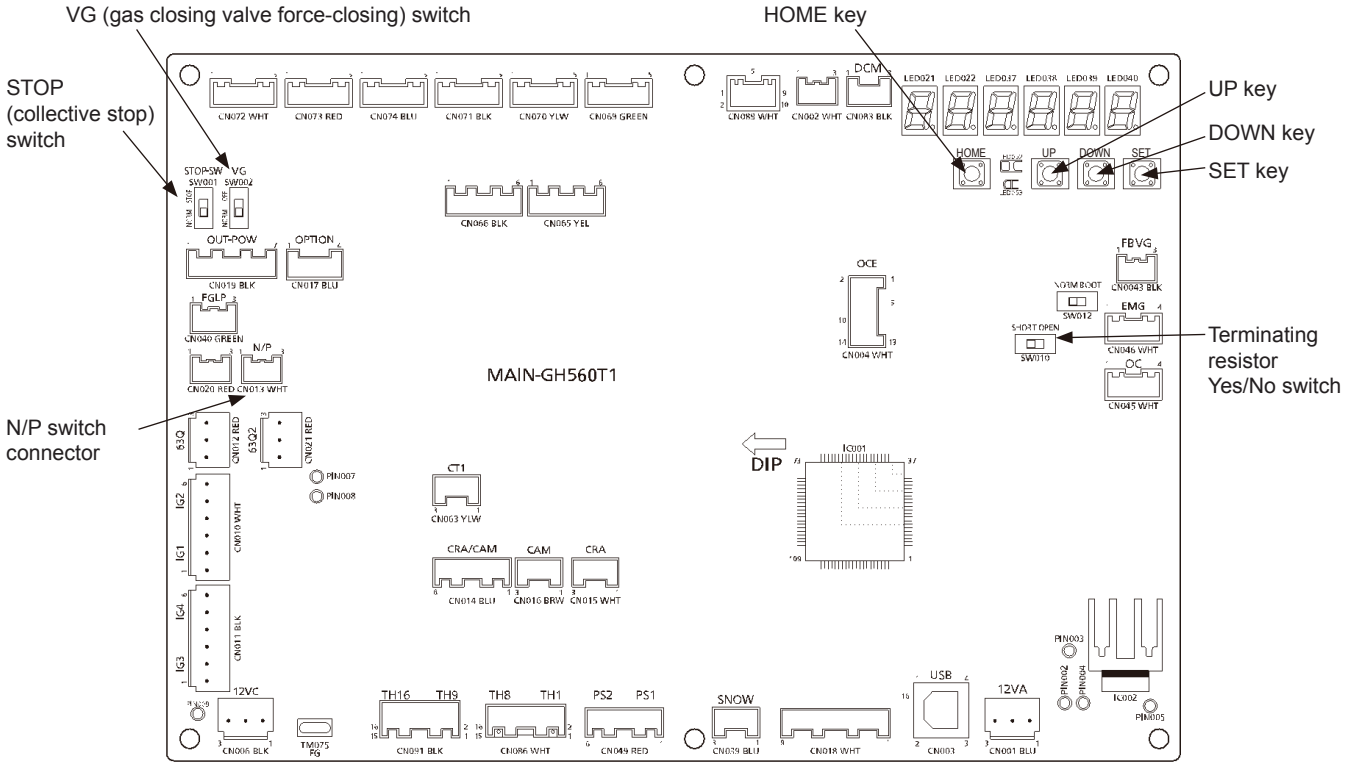

Fig. 1
- (2) Mount the attached short-circuit connector to the N/P switch (Fig. 1) of the outdoor control board.
- (3) Apply the < Gas type set and adjusted > label in the PL NAME designated location in the electrical box.
- (4) After making the setting, use an ink pen or other tool to make a mark so that the original setting position of the lever is known.